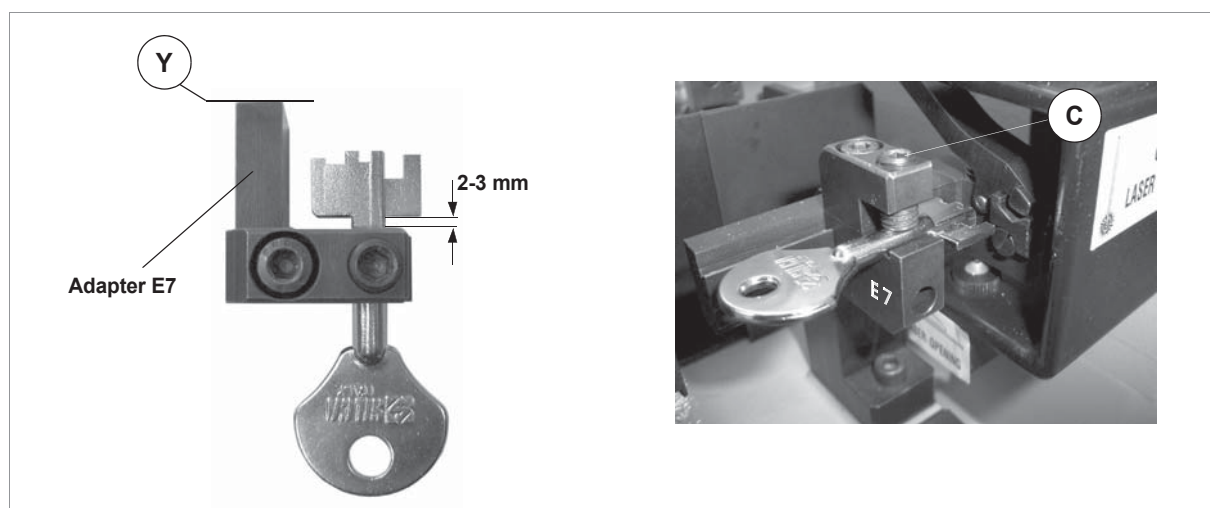

Fig. 39
- 1) Loosen the screw (G) 1) on the S100 clamp.
- 2) Pull out the mobile clamp unit (B).
- 3) Fit the **E7** adapter into the S100 clamp, then tighten the screw (G).
- 4) Fit the original key into the **E7** adapter so that the key stem (rectangular or round) fits perfectly into its seat. The key head will protrude from the side marked E7, whereas the bit will fit inside the adapter, not in contact with the stop but at approx. 2-3 mm. (fig. 39). When this condition is reached, tighten the grub screw (C) to secure the key.
- 5) Push the **E7** adapter until the side (Y) is butting against the fixed part of the S100 - A clamp.